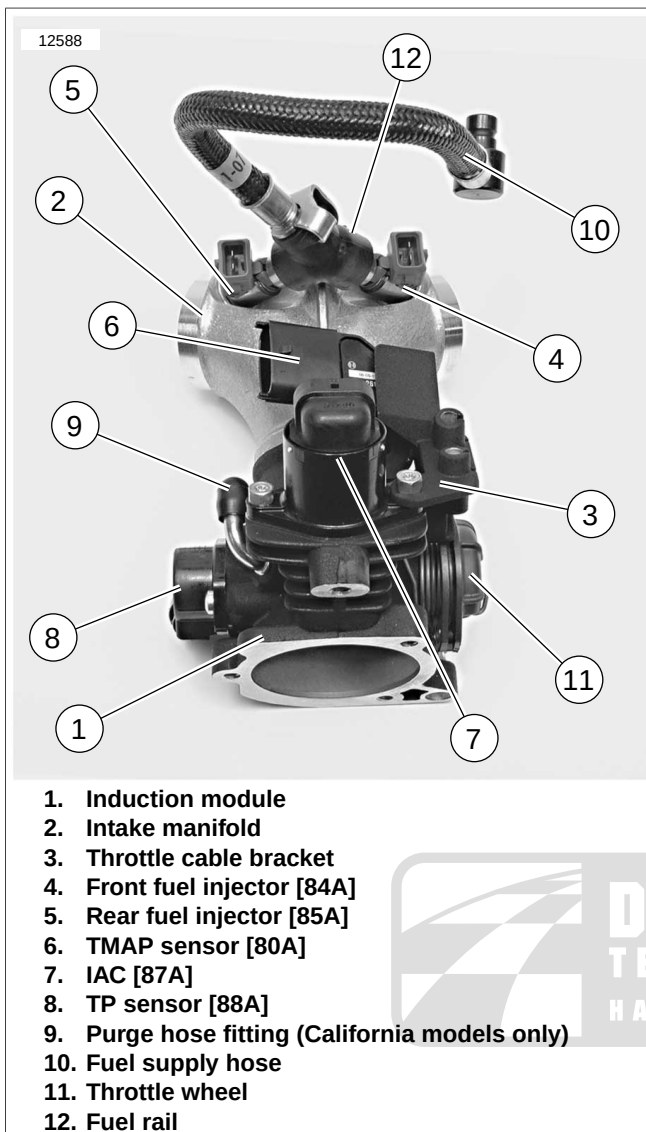

Figure 4-38. Induction Module Assembly (Removed from Vehicle for Clarity)
7. See Figure 4-38. Unplug the following connectors:
- a. front fuel injector (4) connector [84],
- b. rear fuel injector (5) connector [85],
- c. TMAP sensor (6) connector [80],
- d. IAC (7) connector [87],